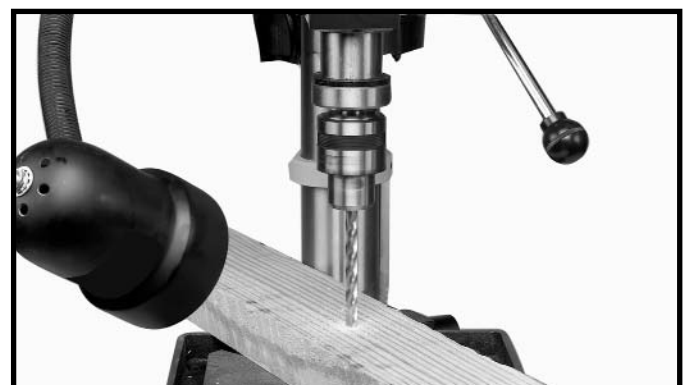

Fig. 28
**IMPORTANT:** When the workpiece is long enough it should always be positioned on the table with one end against the left side of the column, as shown in Fig. 28. This prevents the workpiece from rotating with the drill bit or cutting tool, causing damage to the workpiece or personal injury to the operator. If it is not possible to support the workpiece against the column, the workpiece should always be fastened to the table using clamps or a vise.